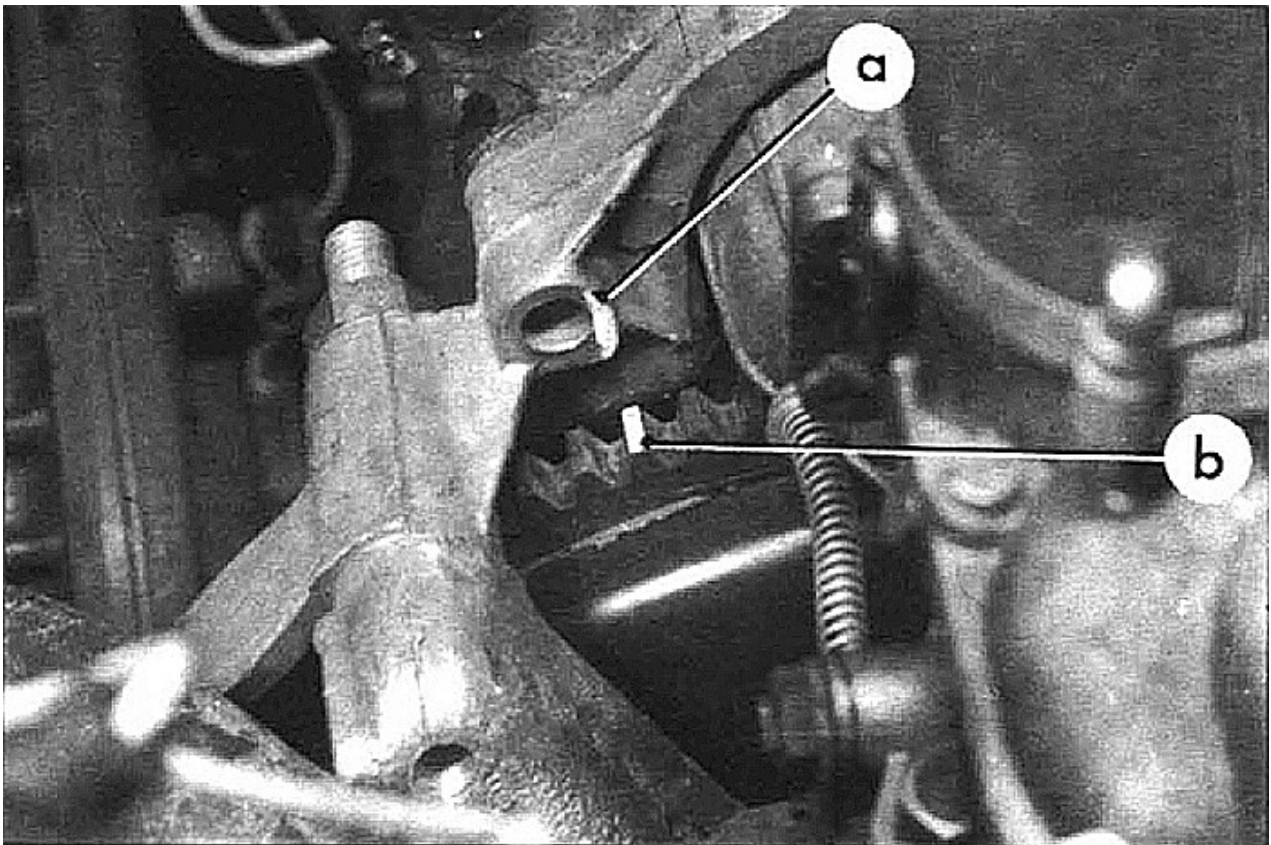

Fig. 1-1. The two timing marks painted on the 2CV engine
Most readers will be familiar with the standard strobe timing light. Its purpose is to generate a bright flash at the moment the engine's number one cylinder spark plug fires, allowing the ignition timing point (crankshaft angle with respect to top dead centre) to be checked/set. The engine manufacturer specifies the spark plug firing angle with respect to the crankshaft's top dead centre position. *Although this article applies in principle to all vehicles*, the Citroen 2CV is used as an example. For the 2CV, the required timing marks have to be established by locking the flywheel at 8° BTDC (before top dead centre) with a 6 mm pin, then painting two white marks which are aligned: one mark on a visible flywheel tooth and the other on the adjacent gearbox casing at a point which lines up with the marked flywheel tooth. (Refer to the Engine section in the writer's article, 2CV Maintenance - Part 1 of 2 for further information on setting engine timing.) See Fig. 1-1 below which shows the marks painted on the 2CV.
After removing the timing pin, start the engine and set the idle speed to 800 - 850 RPM. The engine timing is adjusted with the aid of a timing light so the two painted marks are lined up as shown in Fig. 1-1. At that point, the engine idle timing has been set according to Citroën's specifications, where the spark plugs fire at 8° BTDC at idle. **Citroen's 8161 Repair Manual page 56 states “in no circumstances should the advance be less than 8° for the M28/1 engine”.**
1. With the 6 mm timing pin fitted in place, check that the two painted timing marks are clearly visible and in line, per Fig. 1-1.
6. Adjust the ignition timing so the two timing marks are lined up per Fig. 1-1. This sets the engine timing to 8° BTDC at idle.
8. Select Advance Mode on the timing light, then continue to press the increment button until the two timing marks are lined up per Fig. 1-1. The increment button increases the Advance angle on the control panel in 1° steps. Press the decrement button to reduce the Advance angle.